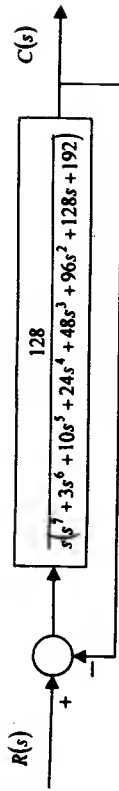

Fig. 3.
- Using the Routh's stability criterion, draw a conclusion about the stability of the closed-loop system shown in Fig. 3.